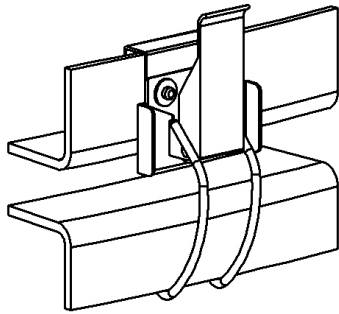

Fig. 01
- The kiosk must be transported fully closed and its interior secured with transport safety hooks. (Fig. 01)
- Open the door and, before opening the top of the kiosk, enter inside and remove the transport safety hooks. (Fig. 01)